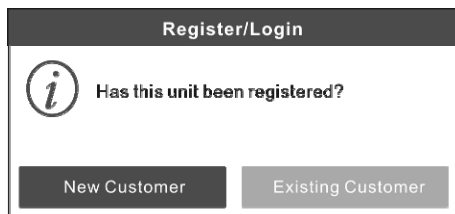

Fig. 4-2
A. If you are a new user, tap “New Customer” in Fig. 4-2 to start your sign-up.
B. If you have registered to be a member, tap “Existing Customer” in Fig. 4-2, a screen similar to the following appears: